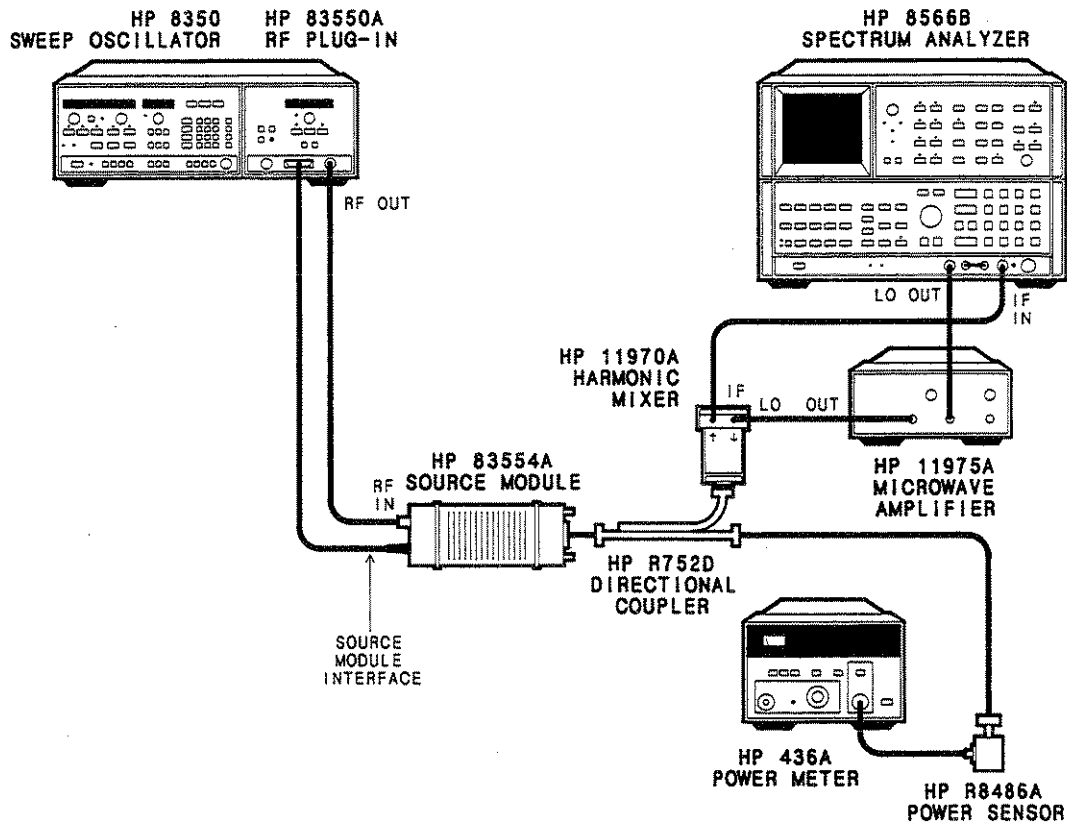

Figure 2-10. Spurious Signals Test Setup
The RF output signal from the HP 83550A/83554A system is tuned from 26.5 to 40 GHz and is displayed on a spectrum analyzer to verify that any harmonic spurious signals present are at or below their specified levels. The test configuration in Figure 2-10 uses an external harmonic mixer to extend the frequency range of the spectrum analyzer. When this technique is used, the response is not preselected and multiple signals are displayed. Each response is examined not only for power level but whether or not it is a true in-band spurious signal by using the spectrum analyzer's signal identification function.
1. Connect the equipment as shown in Figure 2-10.
Because the test configuration in Figure 2-10 specifies that the external mixer be connected to the coupled arm of a 20 dB directional coupler, the coupled power must also be taken into account when calculating reference level offset. The new equation is as follows: